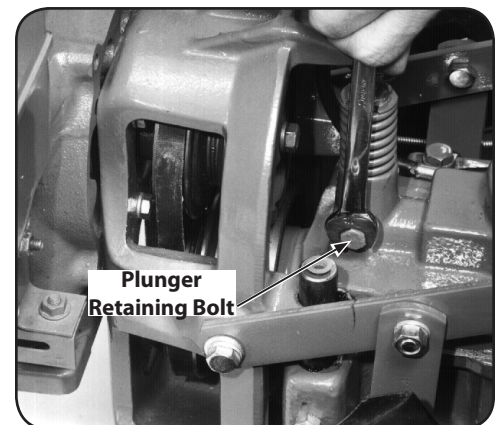

Figure 5-24
8. Place a chalk or pencil mark on the top edge of the plunger retaining bolt. Now, while watching the mark, loosen the bolt $\frac{3}{4}$ -turn. See Figure 5-24. Do not exceed a $\frac{3}{4}$ turn. This would disengage the bolt from the locking groove in the side of the plunger.